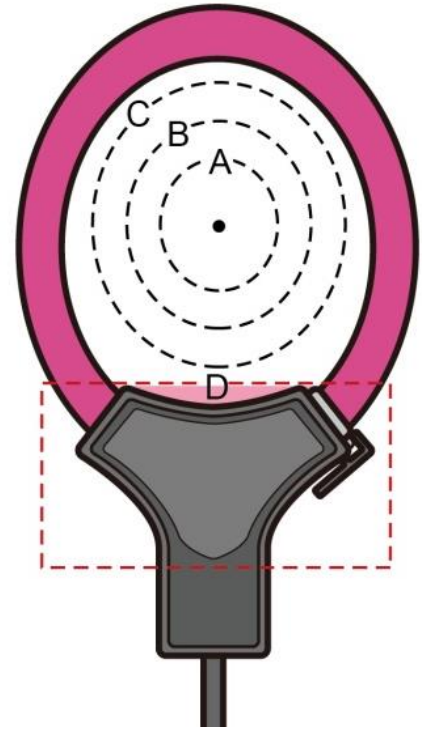

Figure 1.0
1. The ICP DAS Rogowski power meter is calibrated with the conductor positioned at the center (Position A in Figure 1.0), which is the ideal location to ensure measurement accuracy.
2. The Rogowski coil is not a completely closed circular structure, as it has a connection joint. The dashed area at Position D in Figure 1.0 indicates the location of this connection. It is known that when the measured conductor is placed closer to this area, the measurement error increases because magnetic flux variations in that section cannot be properly detected. Please avoid measuring current within the dashed area, as doing so may result in measurement errors exceeding -5% . Moreover, external magnetic flux can also affect the connection section, further increasing measurement errors.